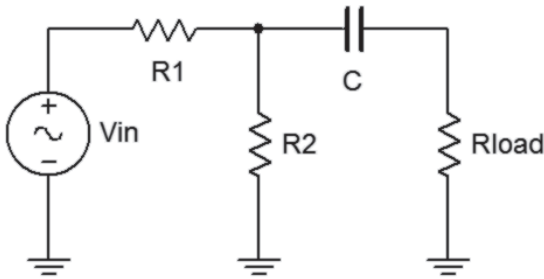

Figure 11.1
- For the circuit of figure 11.1, calculate the voltage across the 1 k Ω load using R1=1.5 k Ω , R2=2.2 k Ω , and C=470 nF, with a 2 V p-p 1 kHz source. Record this value in Table 11.1. Also calculate the expected Thevenin voltage and Thevenin impedance. Record these values in Table 11.2.
- Build the circuit of figure 11.1 using R1=1.5 k Ω , R2=2.2 k Ω , Rload=1 k Ω and C=470 nF. Set the generator to a 1 kHz sine wave at 2 V p-p. Make sure that the *Bandwidth Limit* of the oscilloscope is engaged. This will reduce the signal noise and make for more accurate readings. Measure the load voltage and record in Table 11.1 as V_{Load} Original.